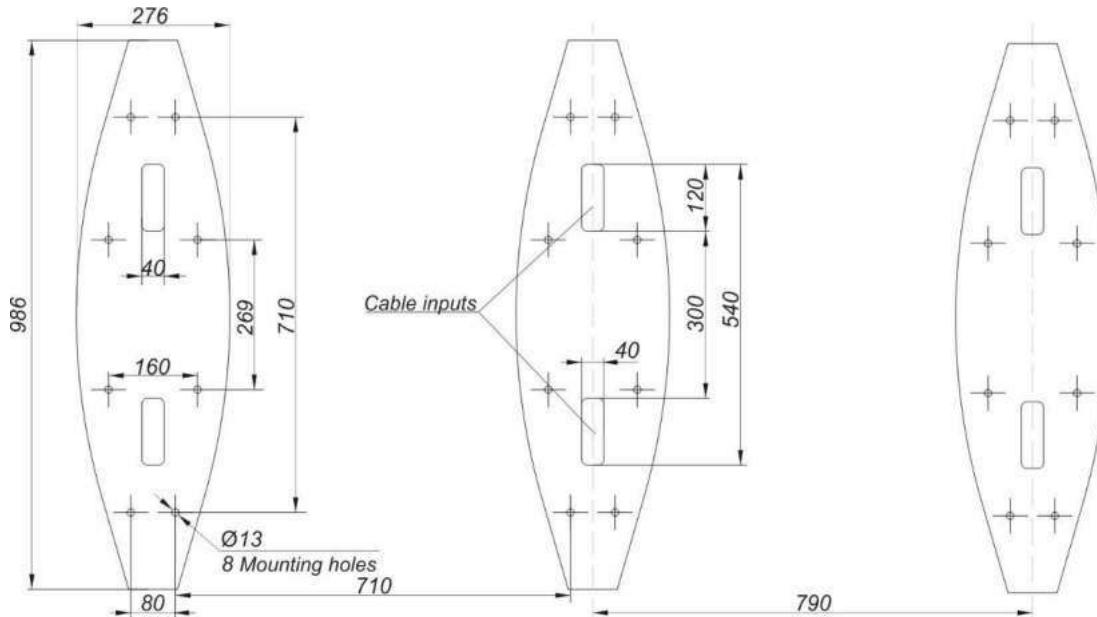

Fig. 16 – Installation dimensions of the set «JETPAN-BM-1» and «JETPAN-BM-2» turnstile
- Unscrew the two screws that fix the turnstile base to the shipping container from both sides (3) and remove the turnstile from pallet;
• The turnstile fixation holes to be marked on the site surface according to Figure 16. The turnstile itself, located upright at the installation site, can be used as a template
4. – align fixation holes at the turnstile bottom plate with the prepared surface holes according to the marking shown in Fig. 16;